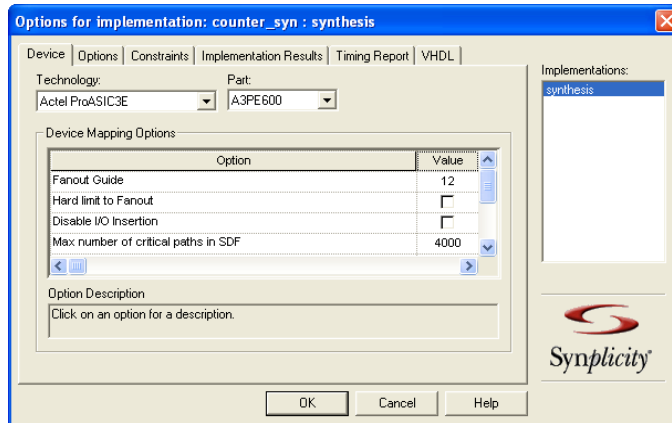

Figure 3-24. Options for Implementation Dialog Box
- From the **Project** menu, select **Implementation Options**. This displays the **Options for Implementation** dialog box, as shown in Figure 3-24.